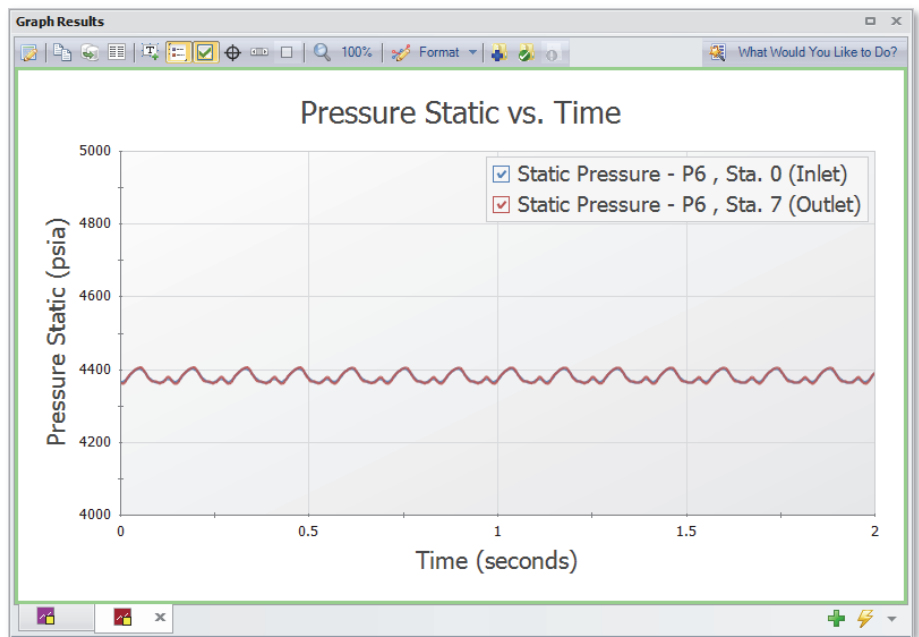

Figure 6.21 Pressure Oscillations at Inlet and Outlet of Pipe P6 for 142.1 RPM
6. Click Generate (see Figure 6.21)